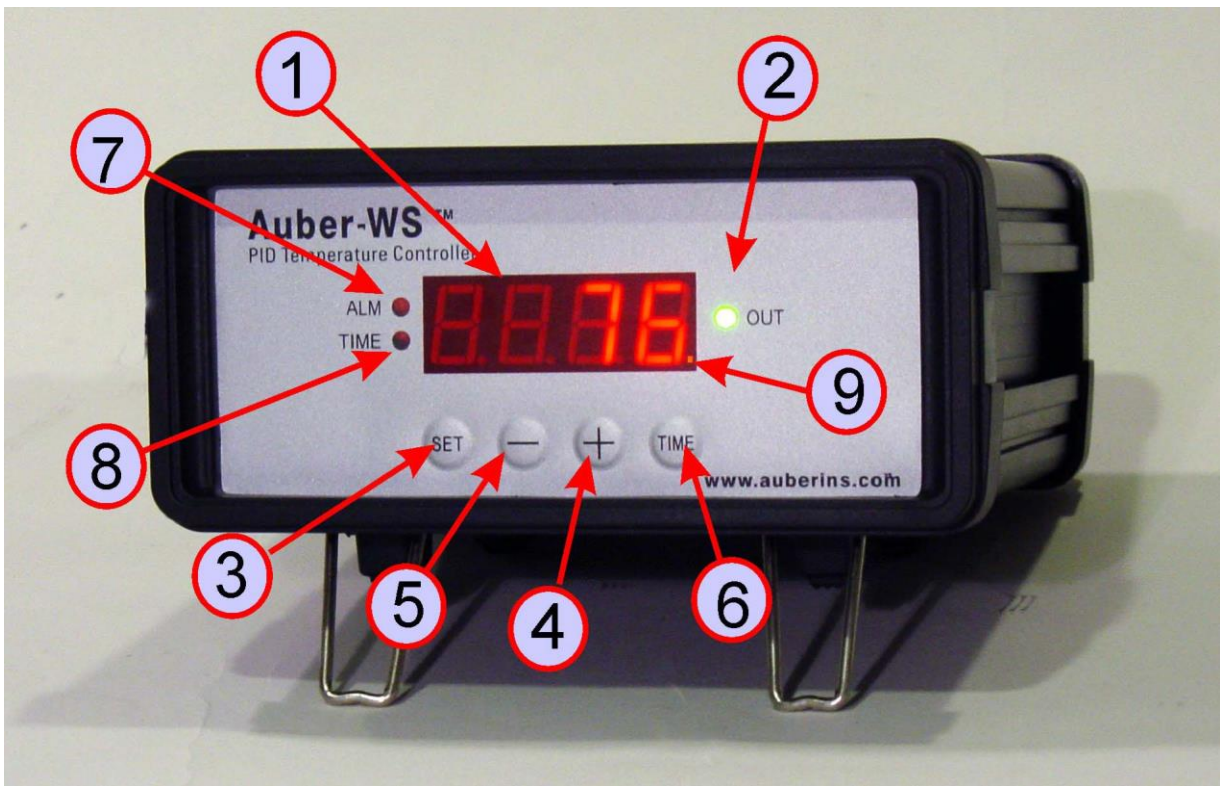

Figure 1. Front Panel.
The front panel of the controller is shown in Figure 1. The function of each item is described below:
At normal operating mode, press the “+” key (item 4 in Figure 1) to toggle the display window between the current temperature and the current step number at which the program is running (P-X). At time displaying mode, press the “Time” key to toggle the display between the total time (in minutes) since the controller was powered up and the time past in the current step. For example, the controller has been running for 100 minutes in total, but currently it is at step 2 for 40 minutes. So when you first press “+” key, controller will show “P-2” in the window. If then you
At normal operating mode, press the “Time” key (item 6 in Figure 1) once to toggle the LED window between the current temperature and the total time (in minutes) since the controller was powered up. The Time Indicator (item 8 in Figure 1) will lit at same time. When the time is being displayed, press the “+” key will toggle the display between the total running time and the running time of the current step. For example, the controller has being running for 100 minutes in total, but currently it is at step 2 for 40 minutes. So when you first press “Time” key, controller will show “100” in the window with the Time Indicator lit. If then you press “+” key, the controller will show “P 40” while the Time Indicator still lit.